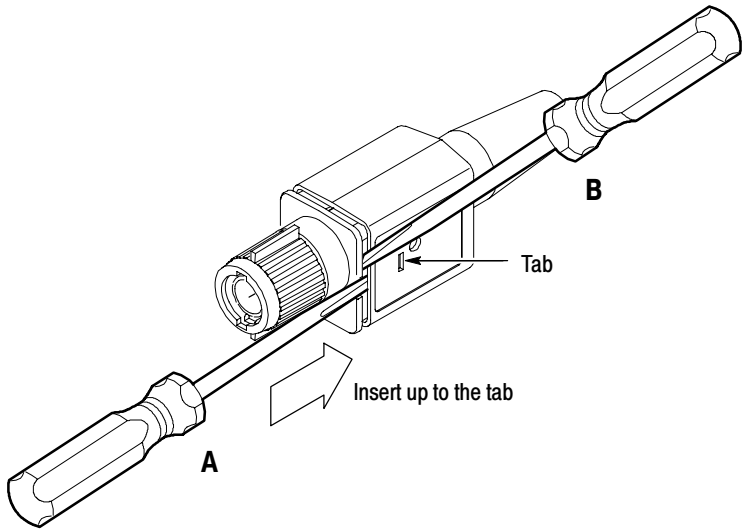

Figure 6: Opening the compensation box
To open the cover, obtain two small screwdrivers and use them to unlatch the tab as shown in Figure 6.
1. Insert the flat blade of small screwdriver (A) into the location shown in Figure 6. Insert the blade until it stops against the back of the tab.